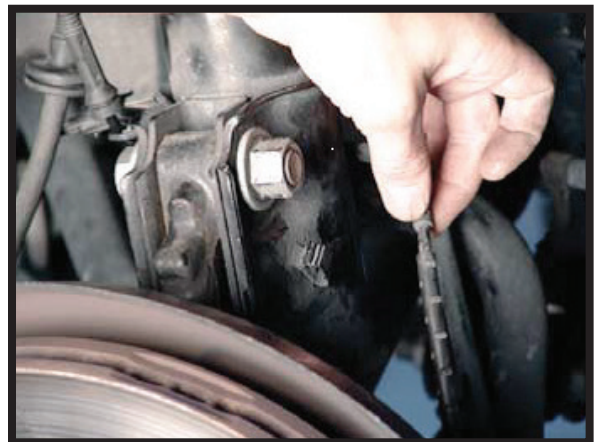

FIGURE 2
5. REMOVE THE SENSOR FROM THE SMALL PLASTIC CLIP AT THE BOTTOM OF THE SHOCK. (FIGURE 2)